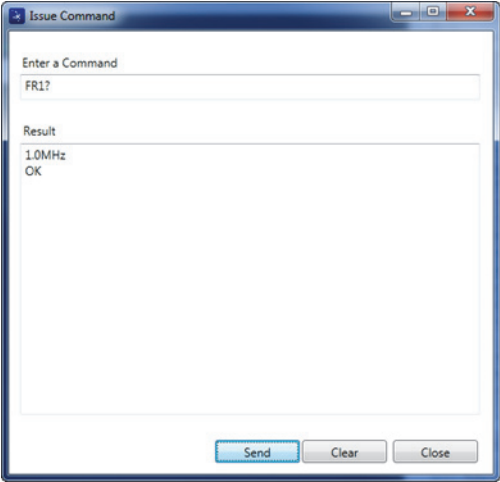

Figure 6-18 The Issue Command dialog box
The **Issue Command** dialog box opens (see Figure 6-18 on page 315).
- 2. In the **Issue Command** dialog box, enter a command (see Figure 6-18 on page 315).
3. In the **Issue Command** dialog box, click **Send** (see Figure 6-18 on page 315).